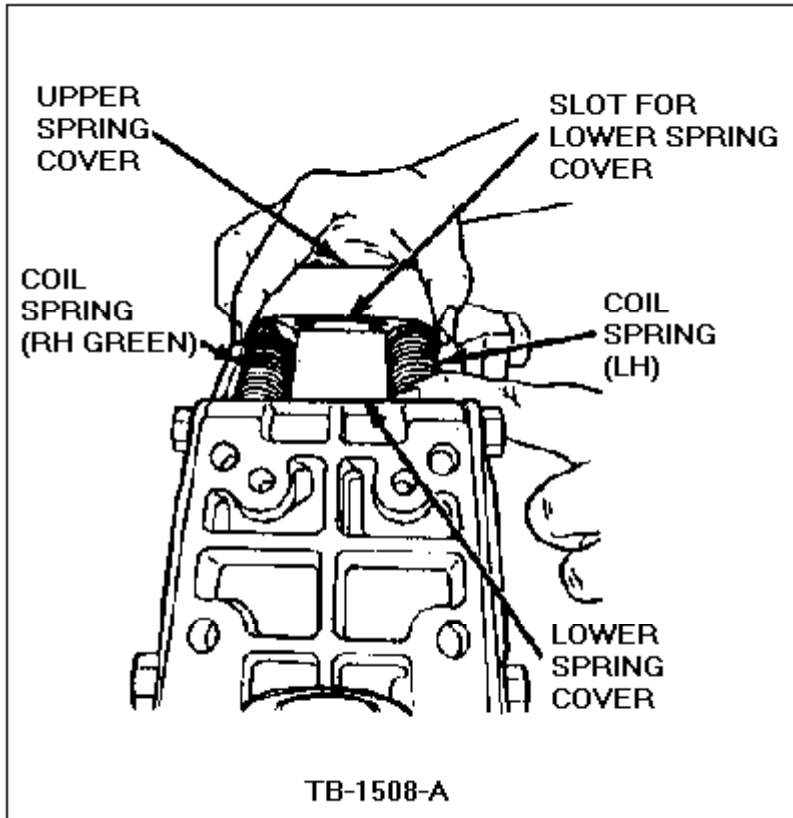

Figure 41 - Article 90-5-10
49. While looking down from the steering wheel end, hook the end of the green right hand coil spring on the right side of the spring retaining rod and the left hand coil spring on the left side, Figure 41.
51. Install the upper spring cover over the two (2) springs, engaging the lower spring cover in the slot provided, Figure 41.